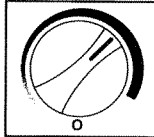

Fig.15
- When maximum cooling is achieved, turnback the temperature control knob setting to the 2 o'clock position on the graduated blue control dial. See fig.15.